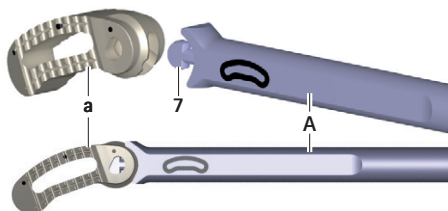

Fig. 7 Coupling the implant to the insertion instrument
- ▶ Mount the implant **a** in the protective packaging onto the dihedron **7** of the insertion instrument **A**, see Fig. 7. When doing so, pay attention to the orientation of the implant (orientation according to the marking on the insertion instrument).
- ▶ Couple insertion instrument **A** to implant **a** in situ, see Fig. 7.